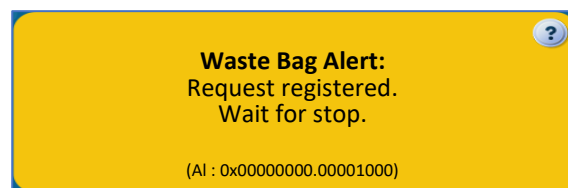

Figure 118: Change Waste Bag screen after the user request
• **The System informs you of the need to change the Waste Bag (See Figure 118):**